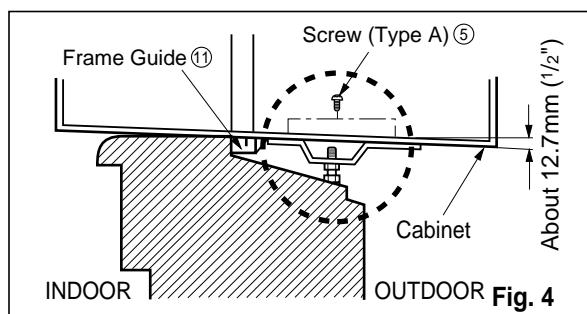

Fig. 4
4. Select the position that will place the sill support near the outer most point on sill (See Fig. 4)
- NOTE:** Be careful when you install the cabinet (frame guides ⑪ are broken easily).
5. Attach the sill support to the cabinet track hole in relation to the selected position using 2 Type A screws in each support (See Fig. 4).